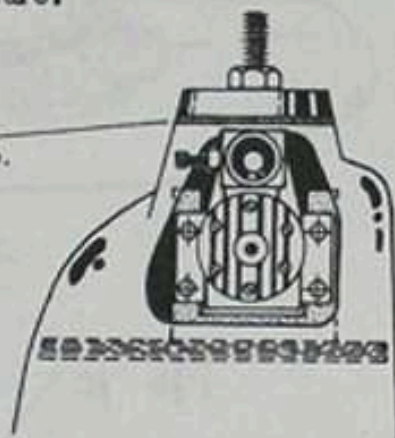
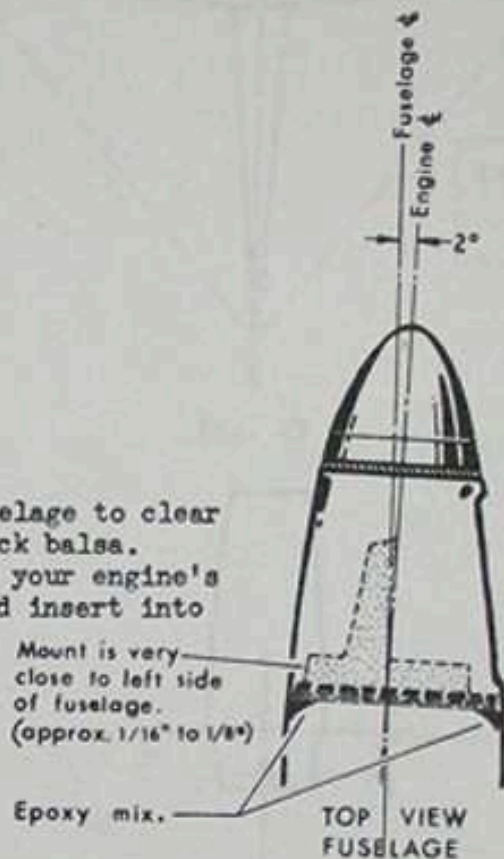

Fig. 19
Fig. 20
23. Using a Dremel tool, cut away front side of fuselage to clear engine. Make a 2-1/4" dia. ring from 1/16" thick balsa. Drill a hole through it's center to tightly fit your engine's prop shaft. Mount engine in the motor mount and insert into the engine compartment. Place balsa ring on the prop shaft and tighten the rear plate of a Goldberg 2-1/4" spinner onto it. Hot Stuf the ring sparingly to the fuselage as in figure 19. Coat rear of the motor mount with 5-minute epoxy. Insert firewall through the wing saddle opening and press it against the motor mount. Note that the engine has a 2° offset built in (figure 20). Glue firewall to fuselage at several places with 5-minute epoxy. When cured, remove engine leaving the motor mount in place. Securely glue the firewall to the fuselage with slow-drying epoxy and fiberglas cloth. When the firewall has cured completely, drill holes through the motor mount into the firewall and install mounting bolts and blind nuts.